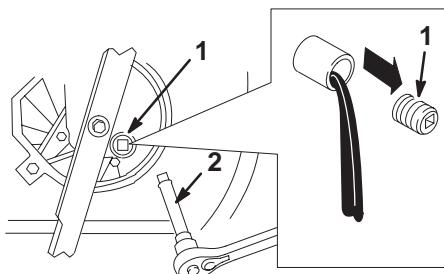

Figure 28
5. Remove the oil drain plug, return the lawn mower to its operating position, and allow the oil to drain into the drain pan (Fig. 28).